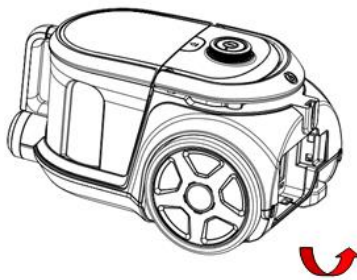

Fig. 14
- 1) As in fig.14, press the outlet lock to open the outlet board.